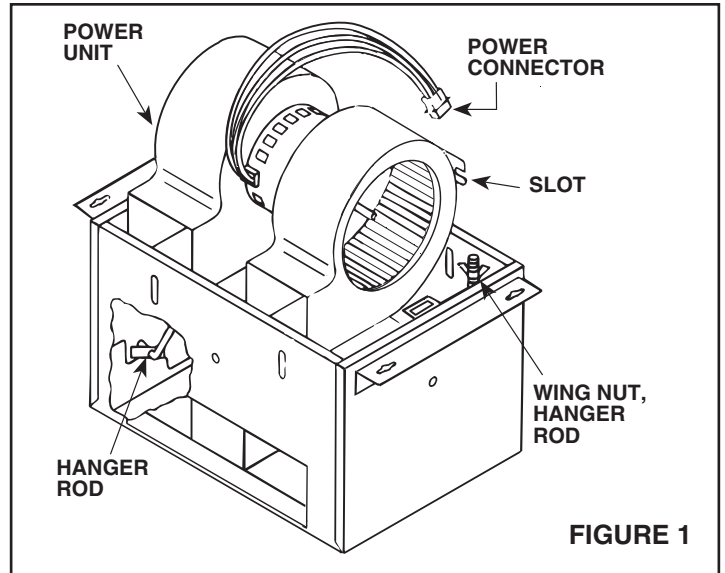

FIGURE 1
- Refer to Figure 1. Remove power unit from housing assembly.